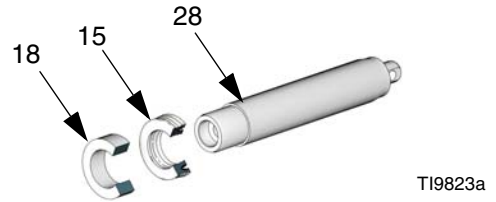

FIG. 1: U-Cup Orientation
1. Install piston rod seal (15); ensure u-cup faces piston rod (28) as shown in FIG. 1.